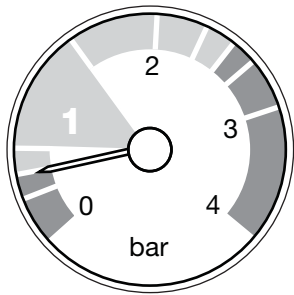

Fig. 2
2. It may be necessary to repressurise the system occasionally (Fig. 2). A filling device (the filling loop) will be fitted on the system. This will be on the boiler itself, or on pipework near to the boiler.